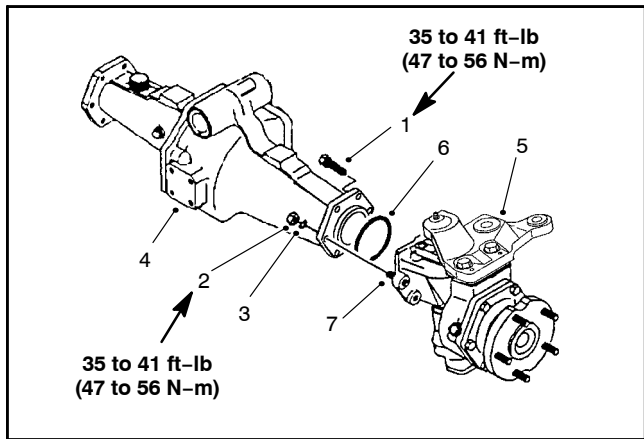

Figure 23
1. Remove the mounting screws, nuts and lock washers. Remove the bevel gear case/axle case assembly and O-ring from the axle support (Fig. 23).